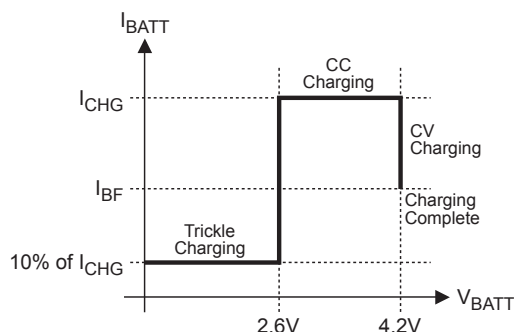
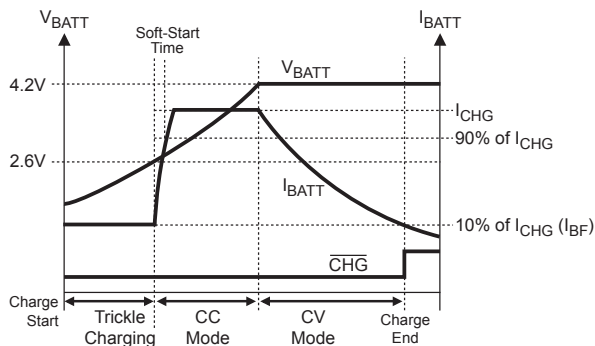

Figure 2—Typical Charging Profile
Figure 3—Typical Charging Procedure
Figure 2 below shows the typical charging profile for the MP26028. Figure 3 shows the typical charging procedure. For a fully depleted battery with a terminal voltage lower than 2.6V, the MP26028 will start with the trickle charge (preconditioning) at 10% of the programmed full charge current. After the battery voltage reaches 2.6V, the charger begins charging at the constant current of the programmed value ( $I_{CHG}$ ). This is referred to as Constant Current (CC) mode. Once the battery voltage reaches 4.2V, the charger will operate in the constant voltage (CV) mode until the battery is fully charged. The charge current drops during CV mode, and the battery full indication is set when the charge current in the CV mode is reduced to the programmed full battery current ( $I_{BF}$ ).